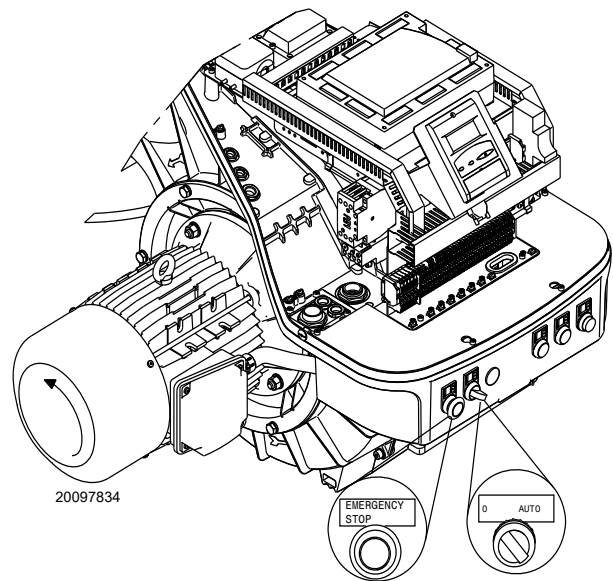

Fig. 28
Close the thermostats/pressure switches. Turn the switch of Fig. 28 to position “**AUTO**”.
Make sure that the lamps or testers connected to the solenoids, or indicator lights on the solenoids themselves, show that no voltage is present. If voltage is present, stop the burner **immediately** and check the electrical wiring. When the burner starts, check the direction of the motor rotation, as indicated in Fig. 28.
- place the switch of Fig. 28 in position “**0**” and wait for the control box to carry out the switch-off phase;